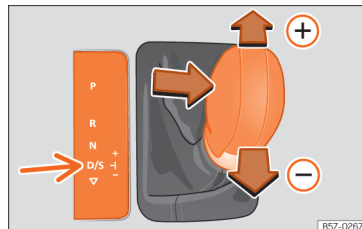

Fig. 153 Lever in the Tiptronic position
- Push the lever forwards  or backwards  to move up or down a gear **»» Fig. 153**.